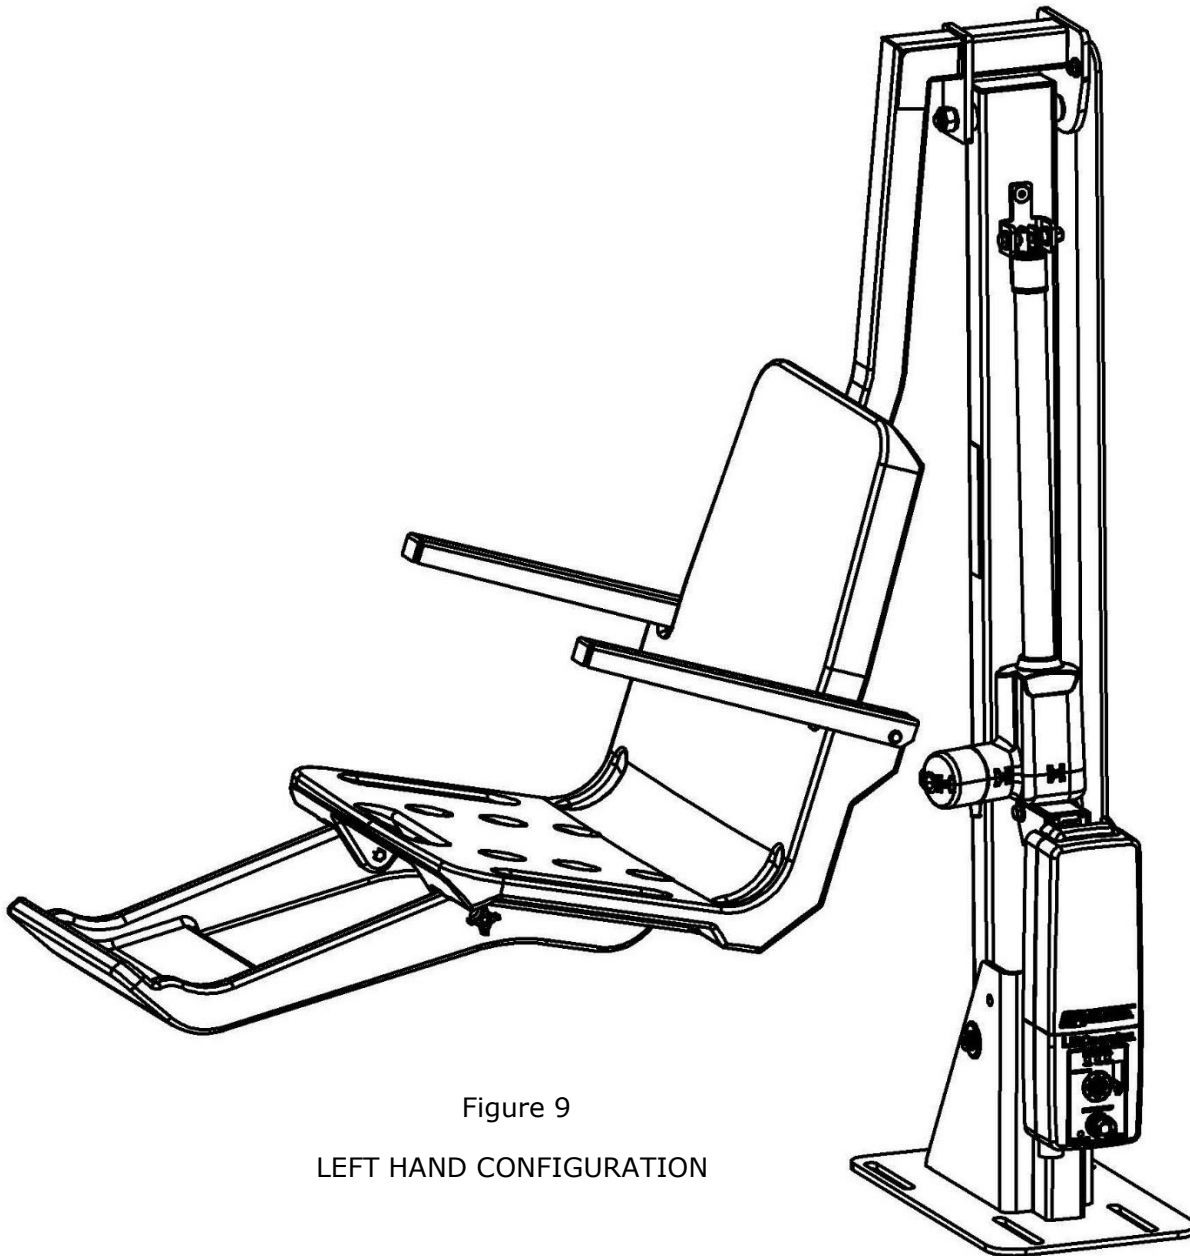

Figure 9
Caution: During assembly, ensure the lift actuator motor is positioned away from the seat leveling arm. Failure to install the seat leveling arm on the side of the lift opposite to the lift actuator motor will cause interference and damage to the lift components. Figure 9 shows the correct position for the actuator and seat leveling arm for a left seat mounting configuration. The main assembly for the multiLift2 is shipped with the actuator installed in the right seat mount configuration. When assembling the lift for a left seat mount configuration, the actuator must be detached from the base, rotated 180 degrees and reattached.
13. Remove the hardware connecting the actuator to the base. Rotate the actuator 180 degrees so that it is in the position shown in Figure 9 and reattach the actuator. Figure 10 shows the re-assembly sequence for bolt, washer, spacers, and nut.